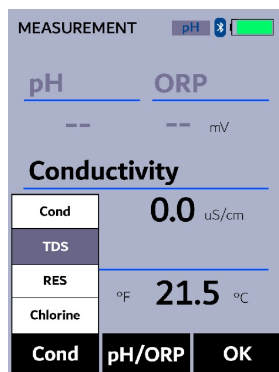

Figure 9. Highlight TDS measurement
2. Press **Cond** (  ) as needed to highlight **TDS** in the selection menu (Figure 9).